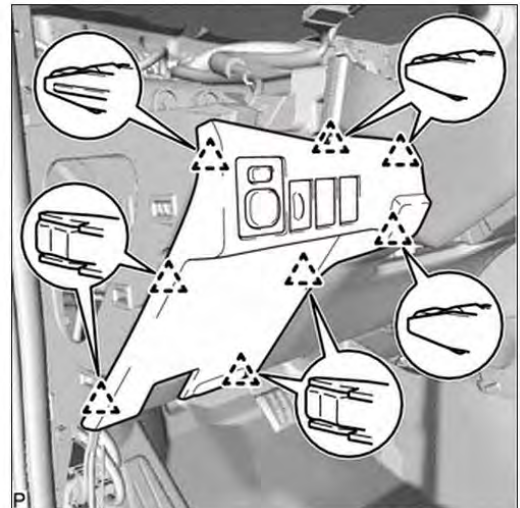

Figure 15
- (c) Disengage the 8 clips (Figure 15).